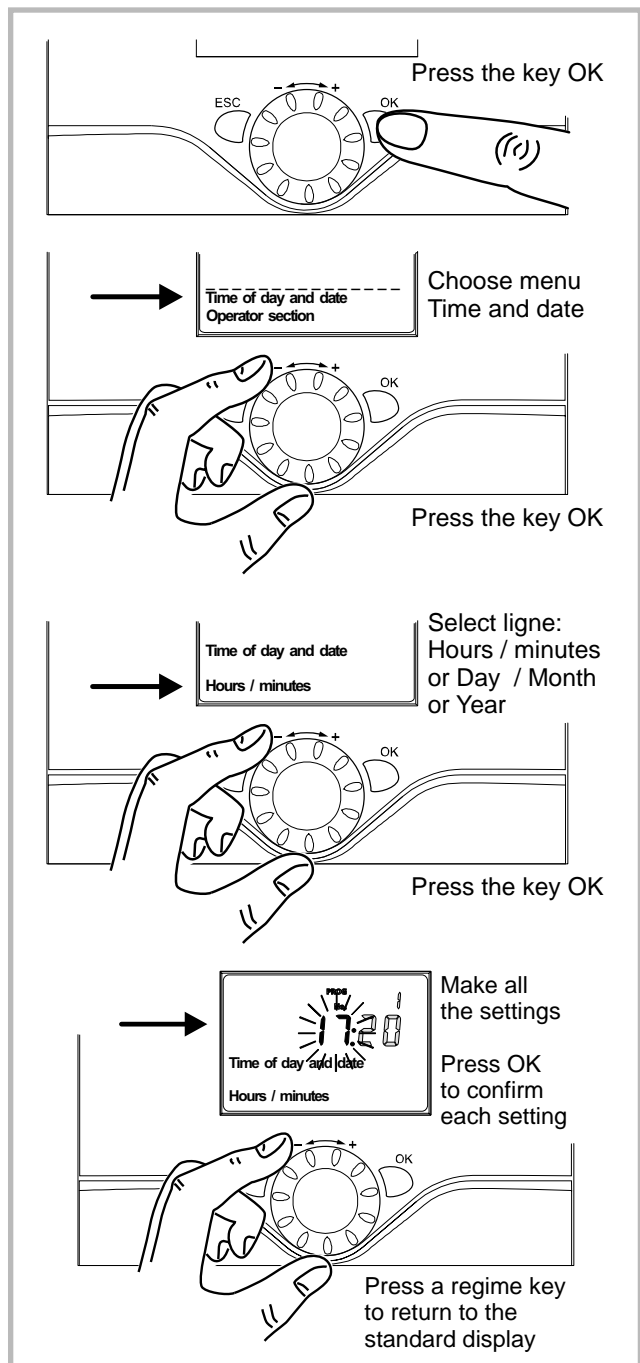

Figure 6 - Setting the time and the date
- Set the current date and time (Fig. 6).